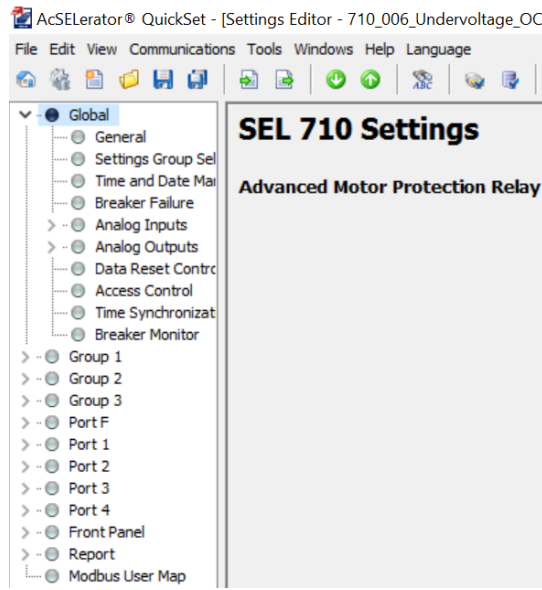

Figure 74: SEL-710 Settings Editor Main
65. Open Global settings in the drop-down menu on the left side of the Settings Editor main window (Figure 74).